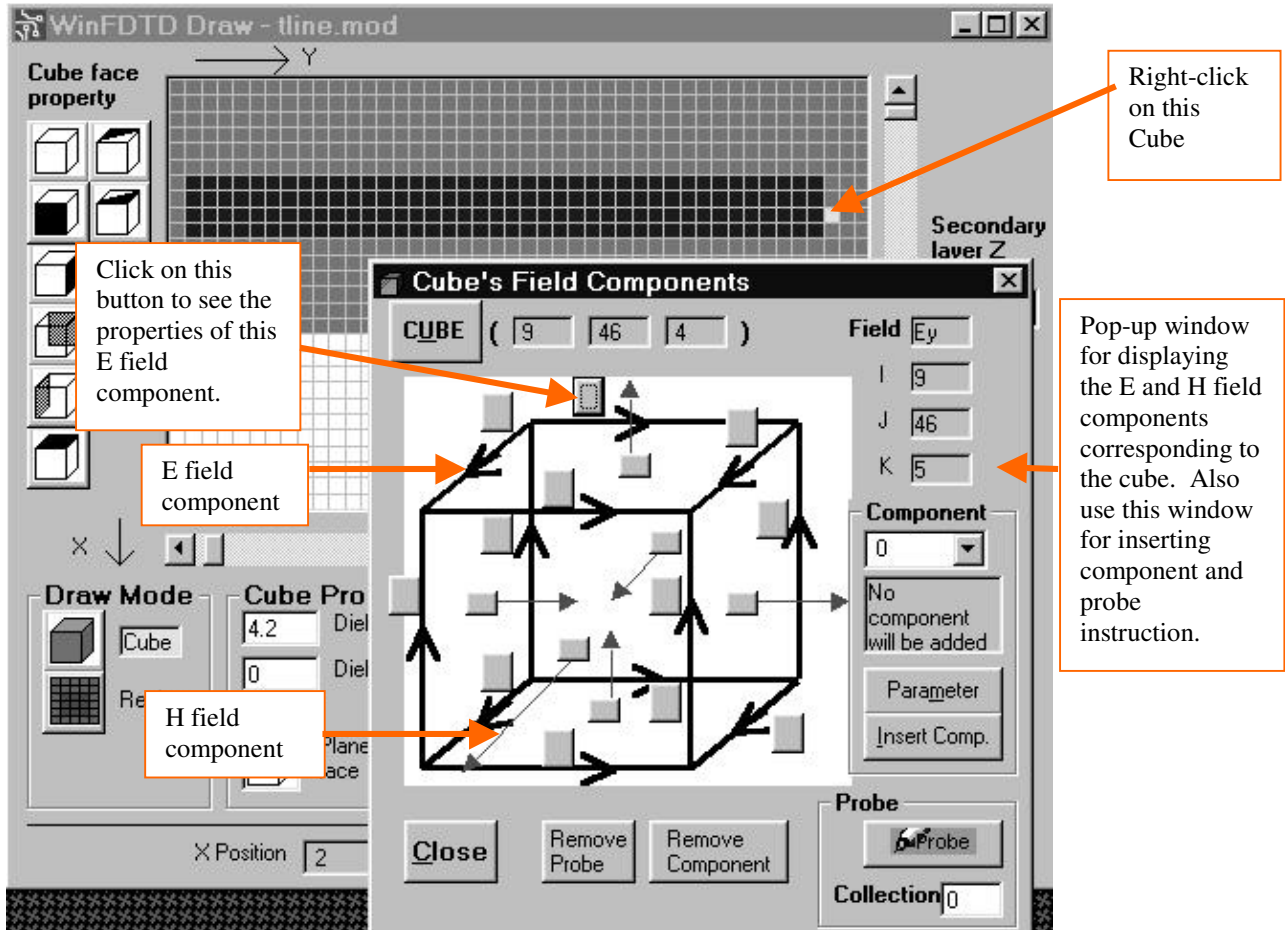

Figure A8.11 – Upon right clicking a cube, a pop-up windows will appear.
- Click on the E field component button as illustrated in Figure A8.11.